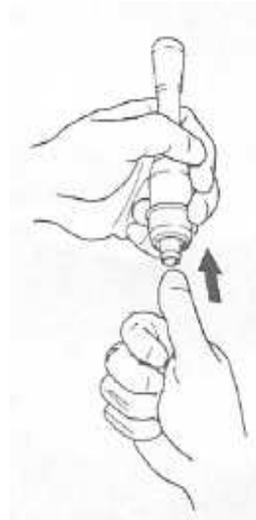

Figure 7
2). The O-ring cleaning insert will be protruding from the end of the body. Push on the stem and tilt the narrow end of the body downward into the palm of your hand (Figure 7). The insert will slide out of the body.